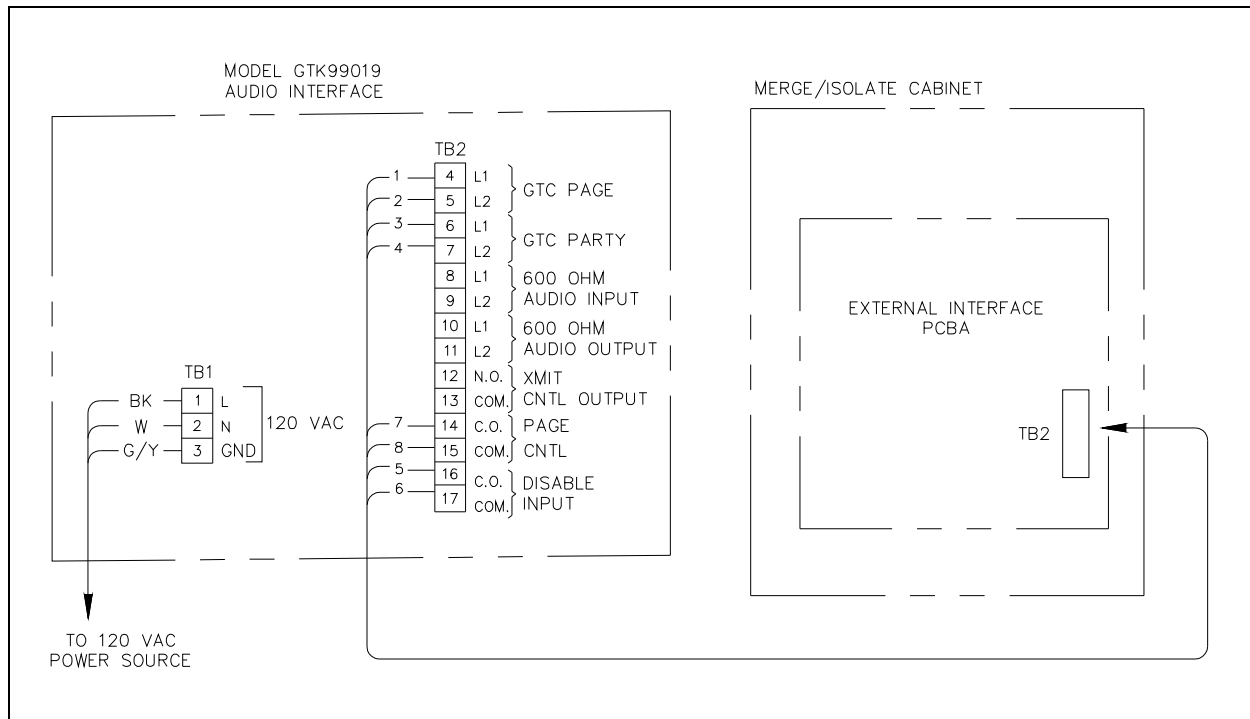

Figure 5. Model GTK99019 Audio Interface Connection Diagram
3. Connect the audio interface to the Model MI05-103 Merge/Isolate Cabinet’s external interface PCBA as follows using a 4-pair, No. 18–20 AWG cable. Refer to Figure 5.